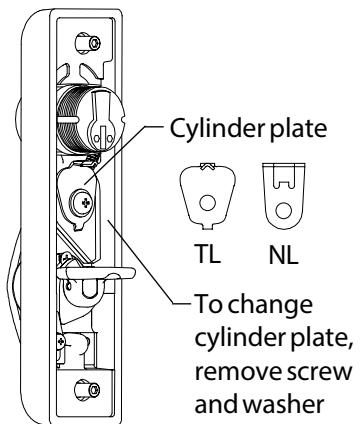

Figure 3. Cylinder plate.
7. Make sure control cylinder plate is correct for desired function (NL or TL; Figure 3).